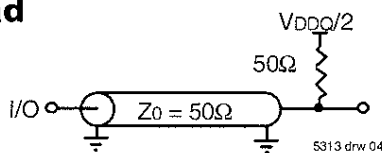

Figure 1. AC Test Load
AC Test Load	See Figure 1
- 4 These parameters are guaranteed with the AC load (Figure 1) by device characterization. They are not production tested.